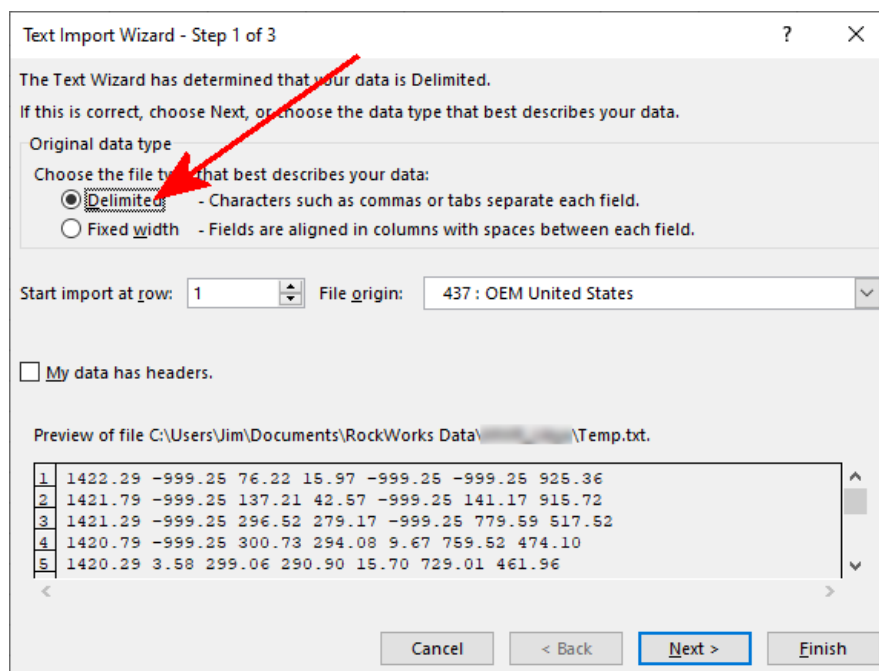

Figure 3
- Make sure that the *Delimited* option is checked within the next menu and select the *Next* option (Figure 3).